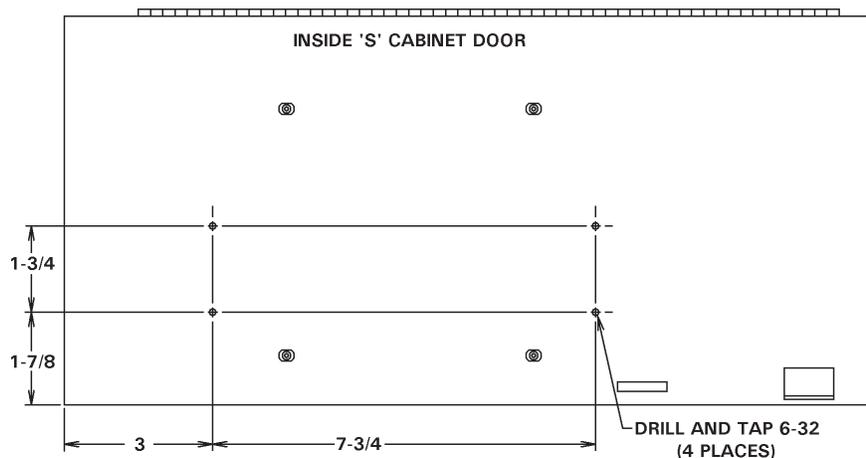

Figure 5-3. Mounting detail for “S” Cabinet
2. Drill and tap door of cabinet as indicated in Figure 5-3. Install the standoffs by using four (4) 6-32 x 3/8 Screws from the outside of the door, 6-32 x 1/2 standoffs on inside of the door.
3. Mount the S49 Option PCB (A/N 410329-004) to the standoffs with the J4 connector towards the rear panel of the cabinet, using four (4) 6-32 x 1/4 PHSMS, Phil, Brite.